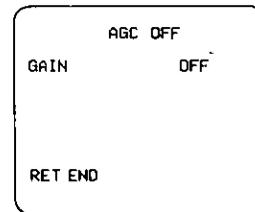

Fig. 32
- AGC ON is blinking in the Setup Menu. Change the ON to OFF by pressing the Left Button (WHT) or the Right Button (GAIN). Then press the Setup Mode Button (SET UP) to display AGC OFF menu as shown in Fig. 32.